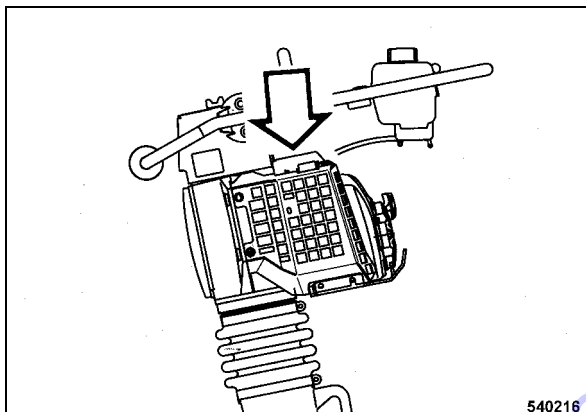

Fig. 41
- Remove the top engine cover (Fig. 41).